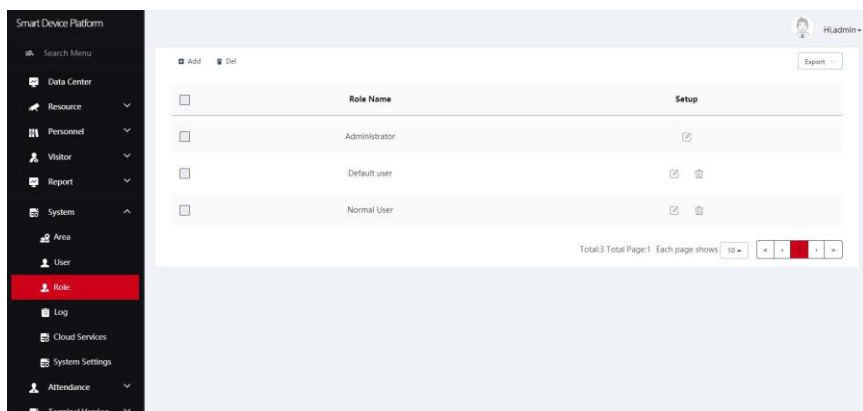

Figure 5-75
Step 1: In the smart device platform interface, click "System→Role" to enter the user management interface, as shown in Figure 5-75 below.